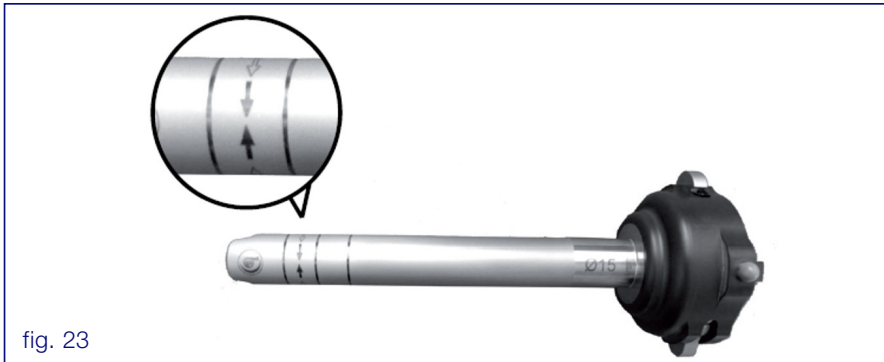

fig. 23
- The lines and arrows on the distal end of the Protection Sleeve help to position the Protection Sleeve in the peritoneum. The lines indicate the depth of penetration (fig. 23). A depth of 2 lines is recommended.